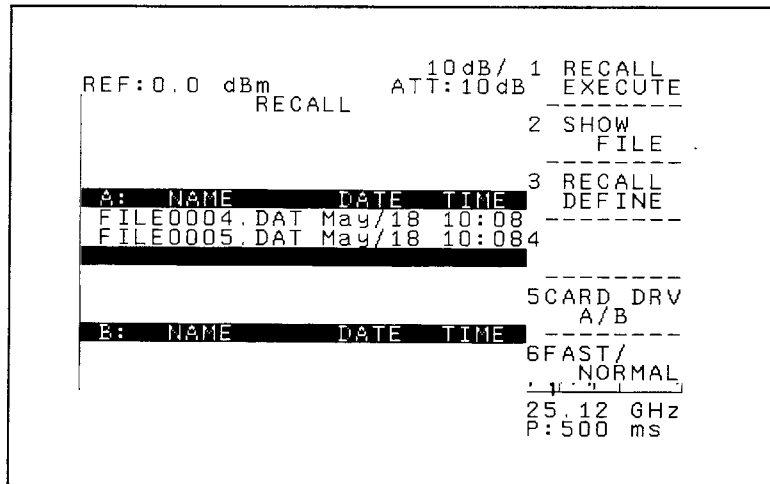

Figure 5-28 RECALL function menu (in NORMAL mode)
- ① Press  and the screen shown in Figure 5-28 will appear.